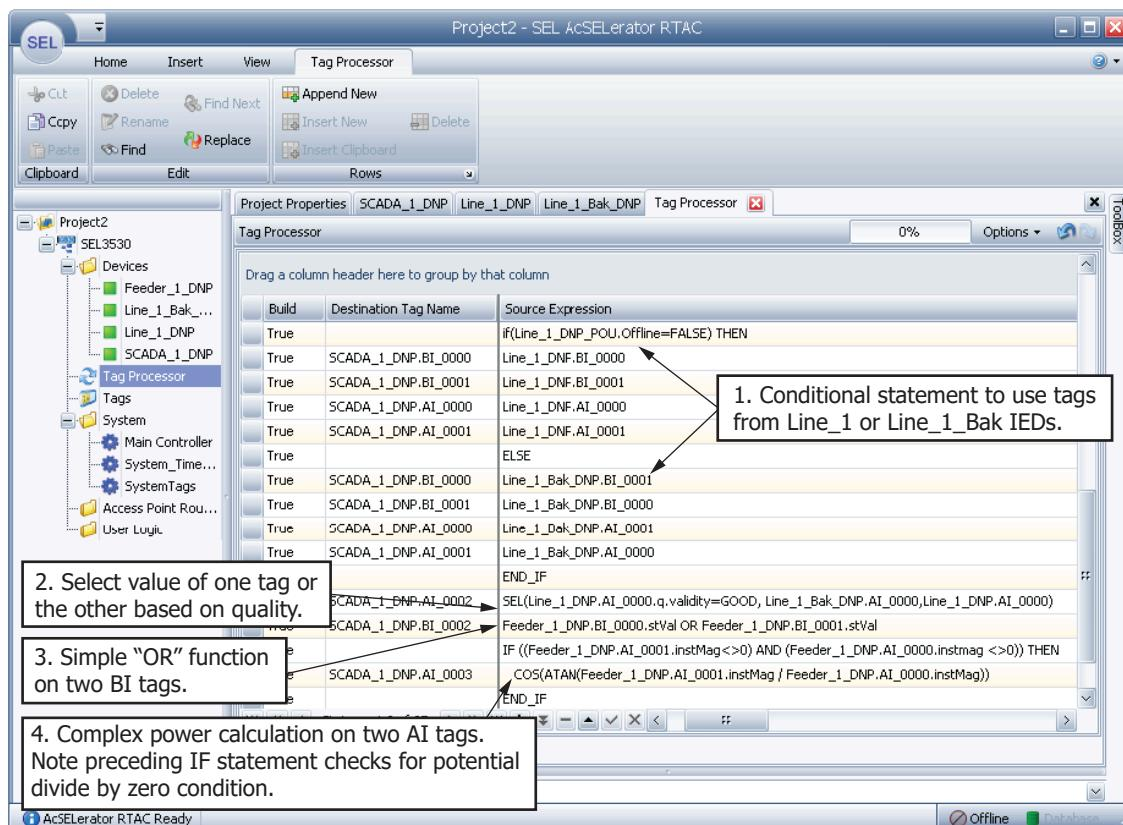

Figure 3.8 IEC 61131-3 Logic in Tag Processor
- Step 8. Type in or copy/paste the tags from Feeder_1, Line_1, and Line_1_Bak to the Tag Processor, as shown in Figure 3.8.
- Step 9. Type in or copy/paste the tags from SCADA_1 to the Tag Processor, as shown in Figure 3.8.
The following describes the specific syntax of the embedded IEC 61131-3 structured text in *Figure 3.8*: